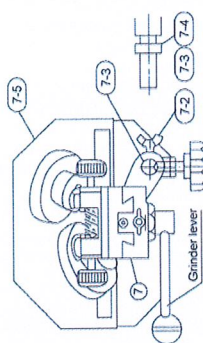

Fig. 7
2. As shown in Fig. 7, pull the grinder lever to start grinding.